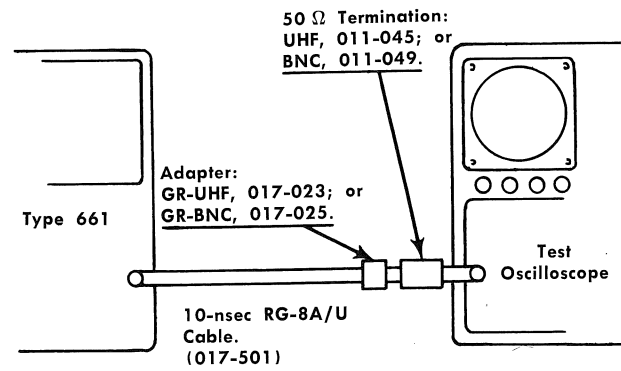

Fig. 5-7. Checking the Amplitude/Time Calibrator peak-to-peak amplitude.
in Fig. 5-7. Adjust per the Type 661 calibration procedure.
e. Connect the Channel B P6038 Probe to the Type 661 Amplitude/Time Calibrator by adding a coax-to-probe adapter (item 12 of "Equipment Required") to the termination shown in Fig. 5-7.